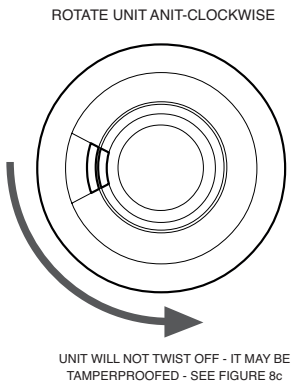

Figure 5
2. The mounting plate (base) is supplied with an interface board to supply power to the Alarm and communicate with other Alarms and the residential panel. (see Figure 5).